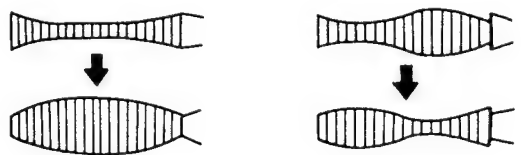

Fig. 5-4-8 Abnormal variation of the waveform
7. If the envelope varies as shown in Fig. 5-4-8, adjustment is required again.